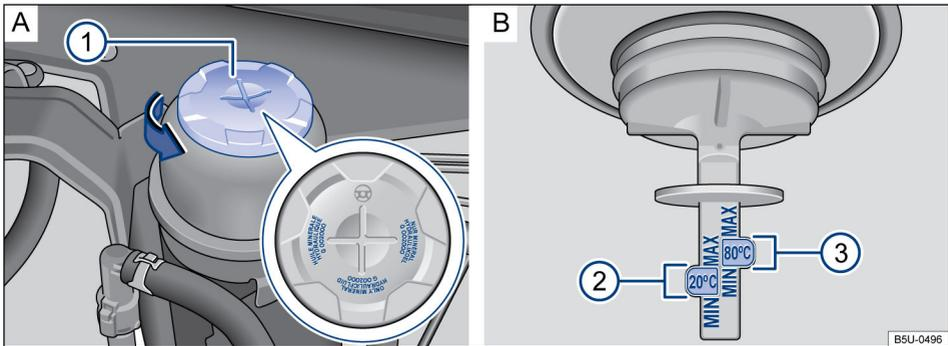

Fig. 85 On the engine compartment: **A**) Power steering fluid reservoir. **B**) Power steering fluid level control marks.
- Turn the reservoir cap → Fig. 85 **A**) **1** in the direction of the arrow.